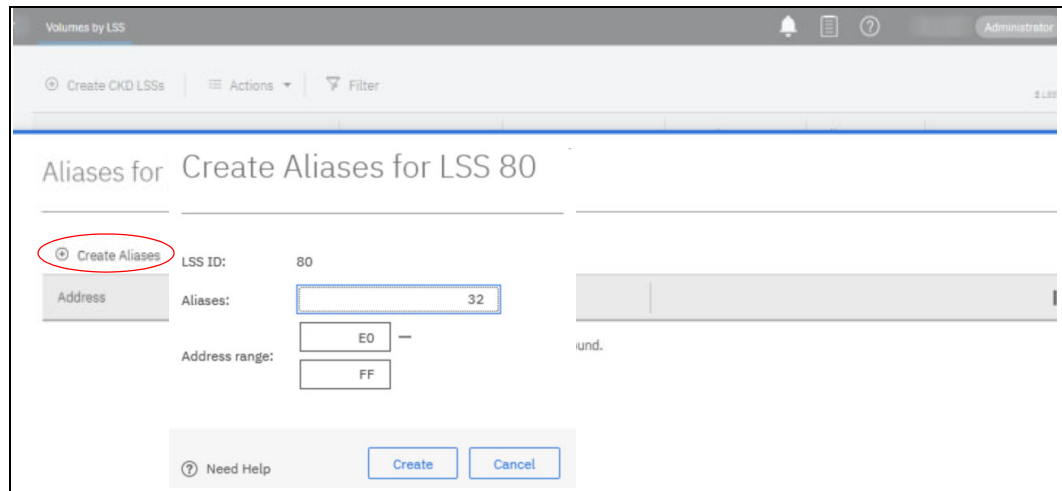

Figure 9-75 Creating 32 aliases for LSS 80
3. Select **Manage Aliases** to open the Aliases for LSS xx (where xx = 00 - FE) dialog box. Click **Create Aliases** to open the dialog box that is shown in Figure 9-75. Enter the number of aliases to create. The example in Figure 9-75 shows 32 aliases being created for LSS 80.